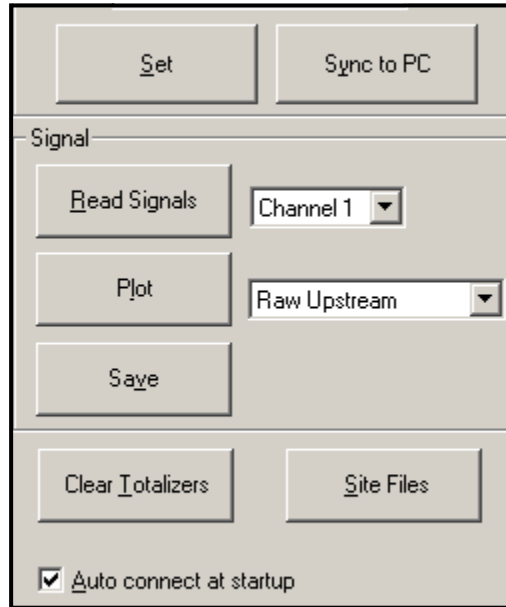

Figure 27: Active Signal Options
1. Click on the *Read Signals* button. (If the meter is a multi-channel instrument, open the Channel drop-down menu and click on the desired channel.) After a moment, the *Properties* window appears similar to *Figure 27* below.